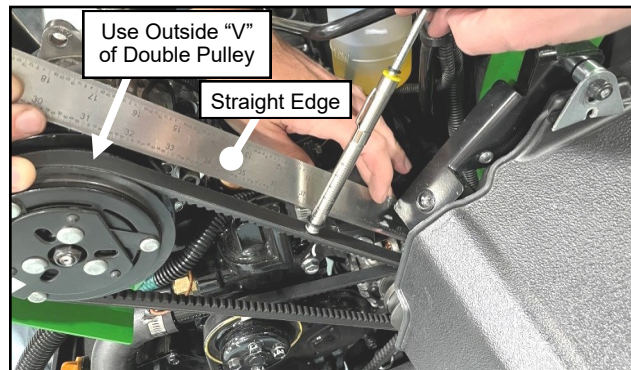

Fig. 2.12 (Install V-Belt)
**2.12** Install V-Belt onto the outer "V" groove of the compressor and install the other end onto the double pulley found on the alternator. See Figure 2.12.
**2.13** Tension belt by placing a straight edge tangent to compressor pulley and alternator pulley. Place belt tension tester in the center and perpendicular to the belt between the (2) pulleys and next to the straight edge. Push the tensioner towards the theoretical center making sure that a deflection force of 3.1 lbs. gets 0.2 inches of belt deflection at the center of the belt. See Figures 2.12 and 2.13. Tighten hardware and verify correct tension.